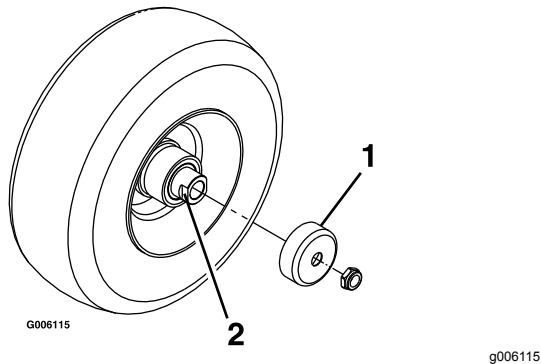

Figure 33
3. Remove the seal guards from the wheel hub (Figure 33).